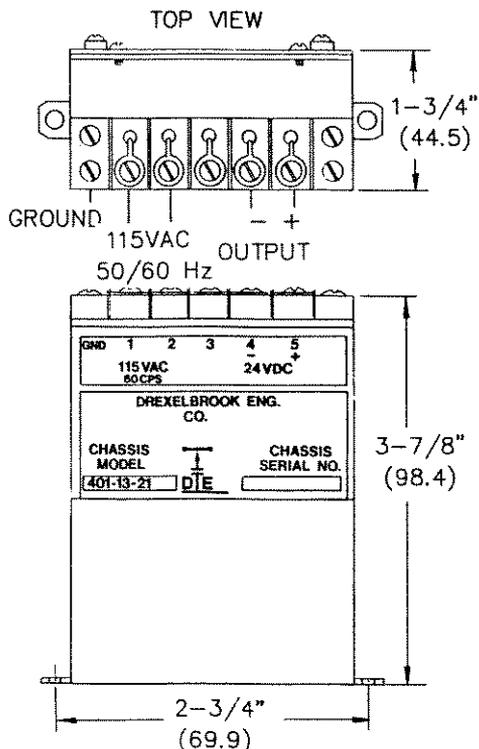

Figure 6-6
- A. With 20 mA (100%) indicated on the flowmeter, measure the line voltage across power supply terminals 1 and 2. See Figure 6-6. The voltage should be between 95 and 135 Vac.